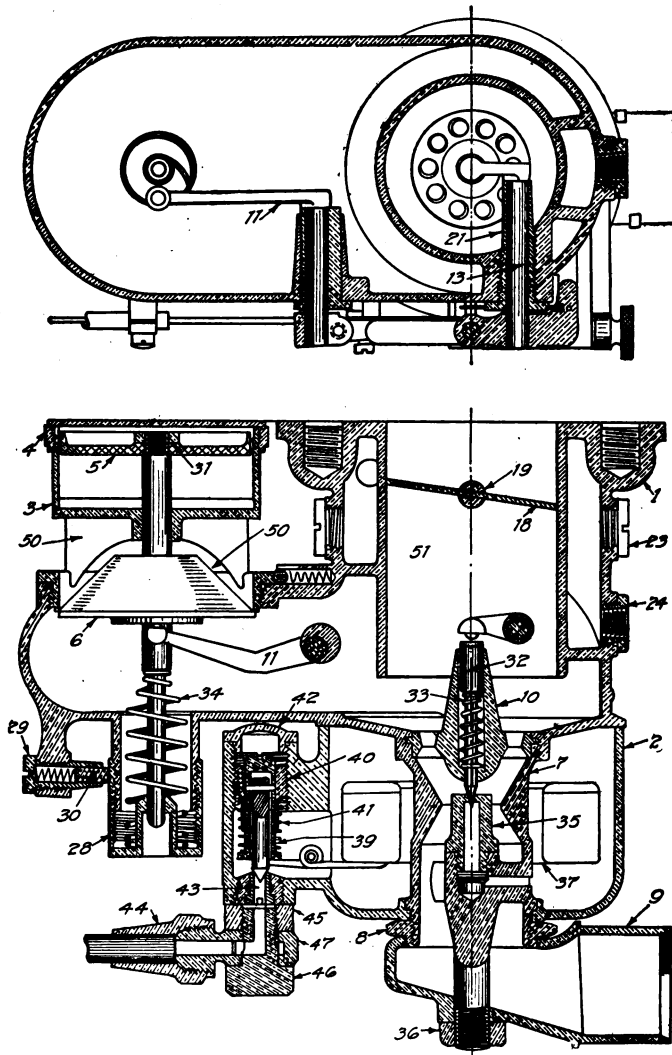

Fig. 100. Section through Webber Automatic Carburetor
**Webber Automatic Carburetor.** The Webber carburetor has been produced to meet the need for a very finely and carefully made instrument. It is an instrument of precision and is priced accordingly. Two models are made, namely, Model "C," which has a vertical outlet and water jacket; and Model "E," which has a horizontal outlet and no water jacket and is therefore smaller and more compact. With these exceptions, the two are very similar in construction, as well as in adjustment. For this reason only the Model "C" will be shown. This will be seen in Fig. 100, which shows a longitudinal section along the center line of the two chambers. It will be noted that this device has a concentric float 37 in which the spray nozzle 35 is located. The needle point 32 is controlled through the needle-point lever 13 which works down onto it from above. The nozzle is placed in the center of the modified Venturi chamber 7, the top outlet of which consists of a series of 10 tapered holes. As the fuel mixed with the hot air entering through the air